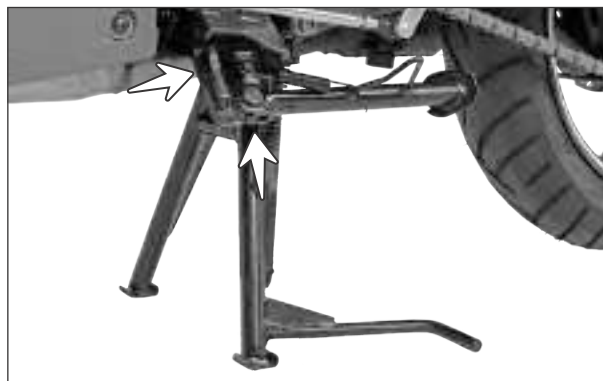

Fig. 2.122
- ▮ Lubricate the pivots of center stand and side stand using TRU4 oil for smooth operation. (Fig. 2.122)